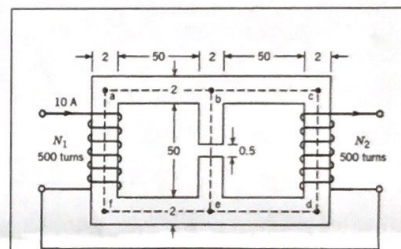

Fig. 1: Simplified inductor.
2. In the magnetic circuit of Fig. 1, the relative permeability of the core is  $\mu_r=1200$ . All dimensions are in centimeters, and the magnetic material has a square cross section area. Neglect fringing and magnetic leakage. Use the dashed line as the average magnetic flux path.